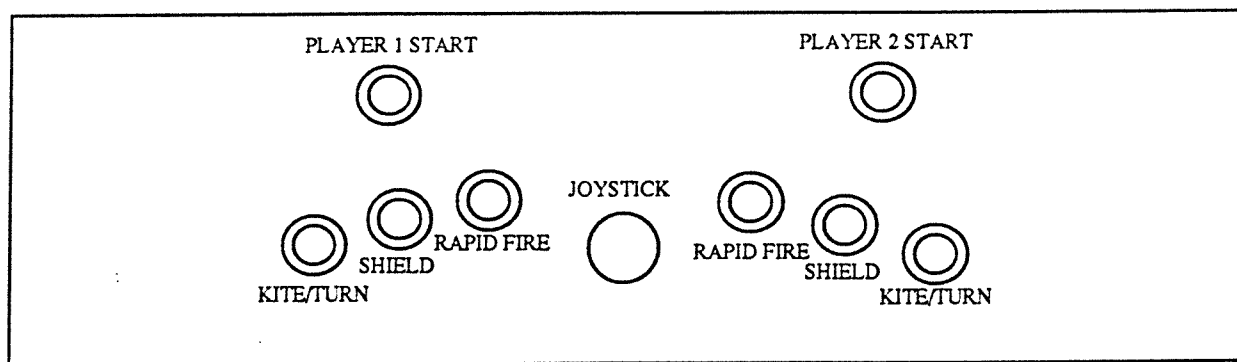

Figure 2
5. Define the location of the player push buttons and joystick(s) on the control panel. (see figure 2)
6. Cut holes in control panel to locate buttons and joystick(s). (see figure 2)
7. Install the "ONE PLAYER START" label and the "TWO PLAYER START" label on the control panel overlay if applicable. (see figure 2)
8. Install player control button labels on the control panel overlay. (see figure 2)
**Note:** This clear plex overlay can be used to protect unused holes in the control panel from player punctures. (see figure 2)
10. Install player pushbutton/s as required. (see figure 2)
11. Install player/s JOYSTICK/S as required. (see figure 2)